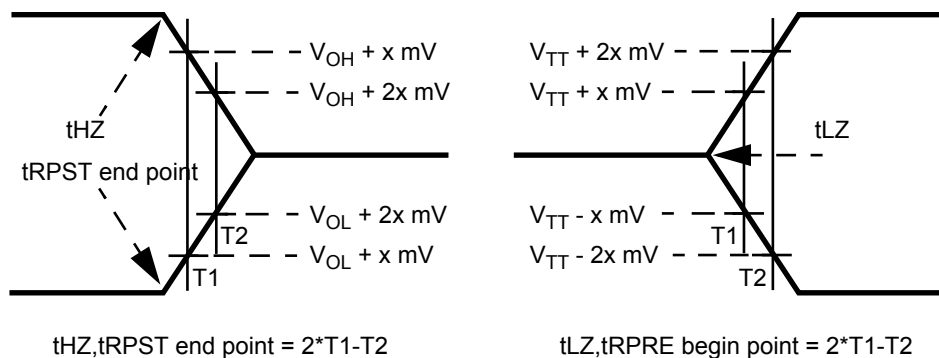

Figure 19. Method for calculating transitions and endpoints
- $$tDAL = 4 + (15 \text{ ns} / 3.75 \text{ ns}) \text{ clocks} = 4 + (4) \text{ clocks} = 8 \text{ clocks.}$$
18. tHZ and tLZ transitions occur in the same access time as valid data transitions. These parameters are referenced to a specific voltage level which specifies when the device output is no longer driving (tHZ), or begins driving (tLZ) . Figure 19 shows a method to calculate the point when device is no longer driving (tHZ), or begins driving (tLZ) by measuring the signal at two different voltages. The actual voltage measurement points are not critical as long as the calculation is consistent. tLZ(DQ) refers to tLZ of the DQS and tLZ(DQS) refers to tLZ of the (U/L/R)DQS and  $\overline{(U/L/R)DQS}$  each treated as single-ended signal.
19. tRPST end point and tRPRE begin point are not referenced to a specific voltage level but specify when the device output is no longer driving (tRPST), or begins driving (tRPRE). Figure 19 shows a method to calculate these points when the device is no longer driving (tRPST), or begins driving (tRPRE) by measuring the signal at two different voltages. The actual voltage measurement points are not critical as long as the calculation is consistent.